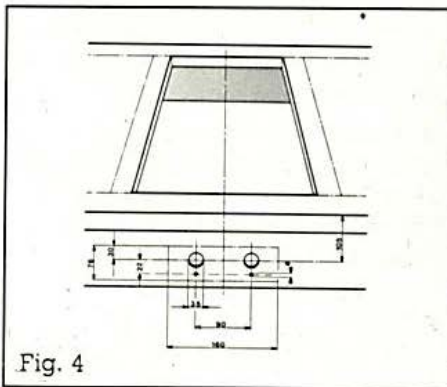

Fig. 4
1. Following Fig. 4 and using a drilling template, prepare the bores, 35 mm diameter for fastening the control element and 4 mm diameter with 3 mm drilling depth for fastening the illuminated discs in the front of the lower cabinet (thickness of the work top max. 50 mm, otherwise the dimension of 105 mm has to be extended downwards accordingly).